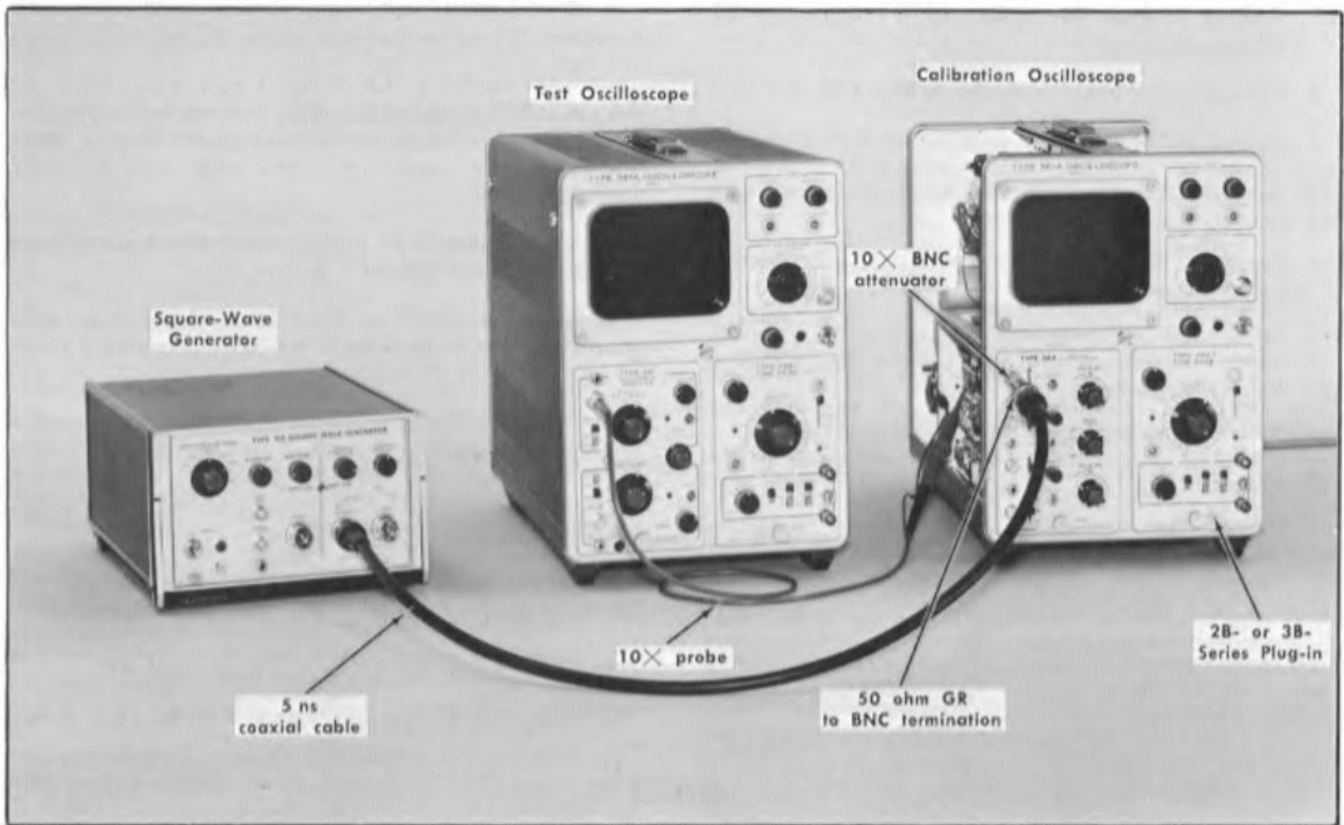

Fig. 6-22. Initial test equipment setup for steps 37 through 39.
- s. Disconnect the 10× probe from ground and connect it to pin 8 of V583; see Fig. 6-22.
- a. Test equipment setup is shown in Fig. 6-22.